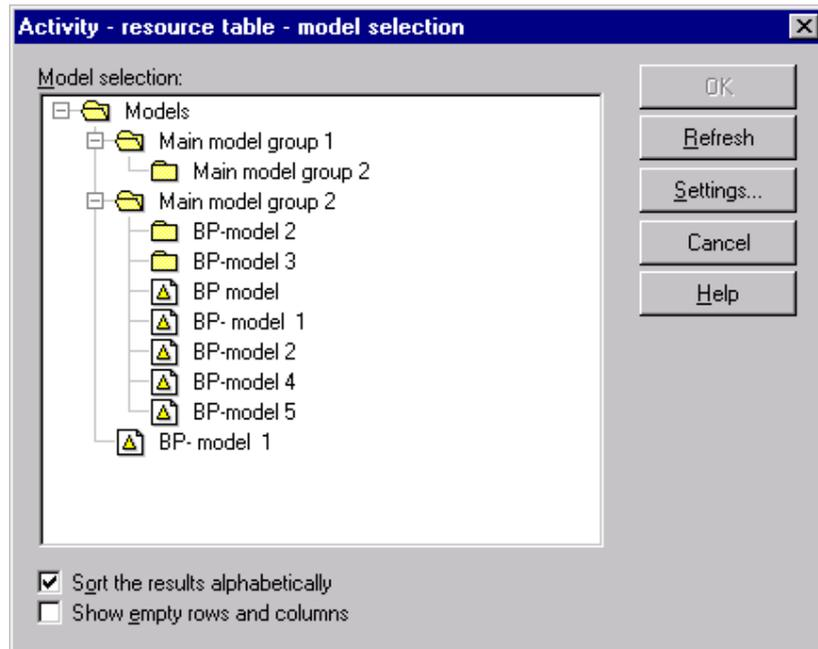
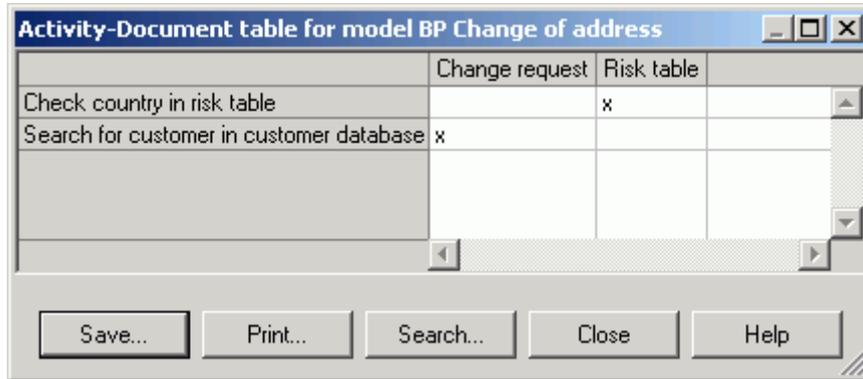
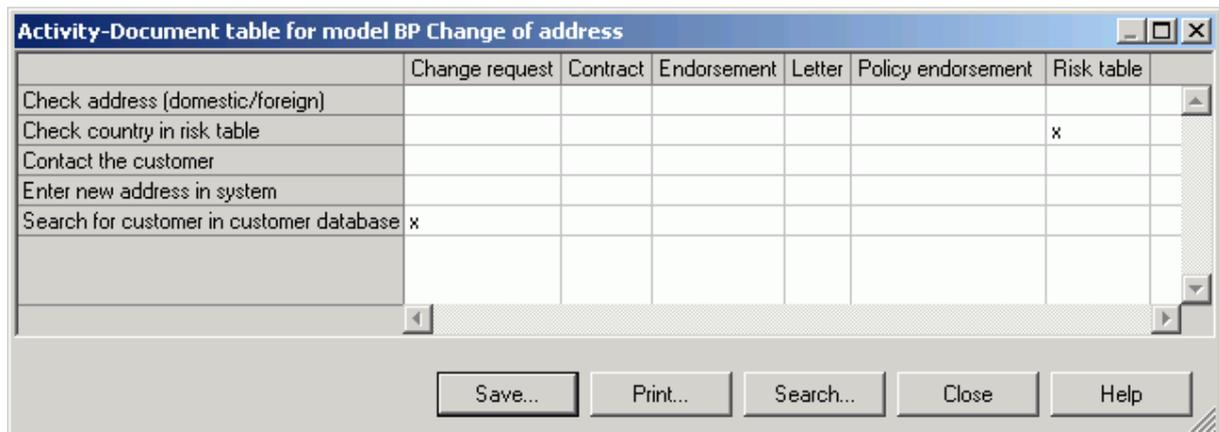

Figure 293: Relation table - Model selection
Figure 296: Relation table (Shrink empty rows and columns)
Figure 297: Relation table (Show empty rows and columns)
The standard representation of relation table is in "compact form", i.e. only the objects between which there is really a relation are contained in the table. Activate the "**Show empty rows and columns**" option to display also the start and target objects to which no relation is connected (see fig. 297).
The relation table generated is displayed in the ADOxx, browser (see chap. 8., p. 66) in the window "<relation table> for model <model name>" (see fig. 296).
**Hint:** In the picture above the relation table shows the standard representation in "compact form", i.e. empty rows and columns will be shrunk (see fig. 296). You can have a complete representation of the relation table including empty rows and columns - as it is shown in the picture below - (see fig. 297) by activating the "Show empty rows and columns" option in the <Relation table> - Model selection" window (see fig. 293).